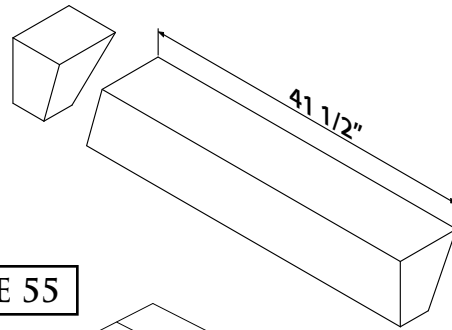

FIGURE 55
**Step 9:** Bevel cut one end each of two M69 damper supports to 41 1/2" with the long point of the bevel at the bottom of the damper support. The bevel angle must be at the same angle in this case, 15° - to match with the bevel angle of the other damper supports already cut in Step 8 (Figure 55).